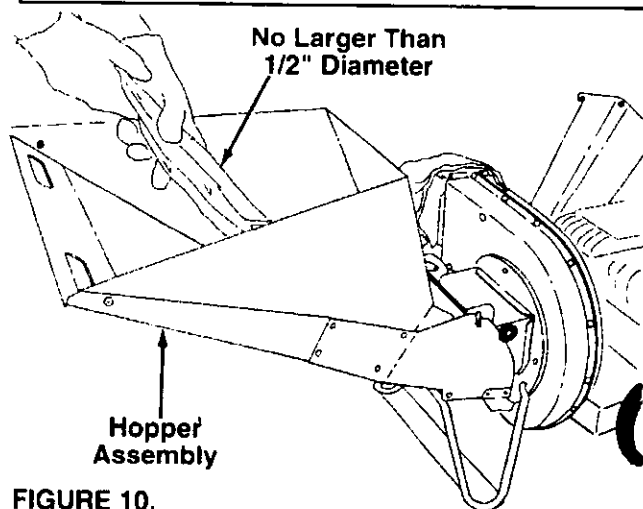

FIGURE 10.
- Leaves and small branches **up to 1/2" diameter** can be fed into the hopper assembly when it is in the raised position. See figure 10. If it becomes necessary to push material into the chipper-shredder, use a small diameter stick—**NOT YOUR HANDS**. The stick should be small enough that it will be ground up if gets into the impeller assembly.